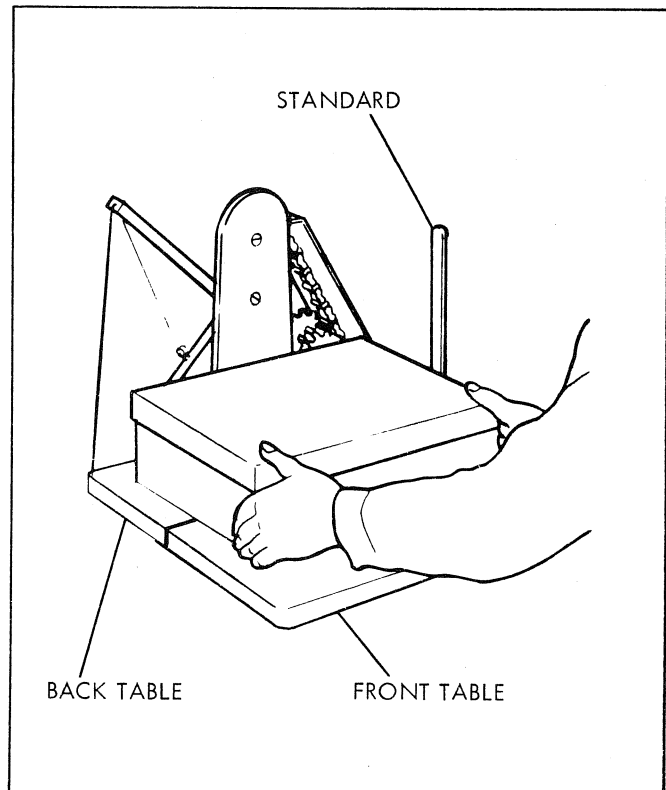

Figure 3 Positioning Package for Tying
3. Hold ends of package between thumbs and forefingers of both hands and position package on tying machine table so that right side of package is butted against standard (figure 3) and positioned over gap between front and back tables.